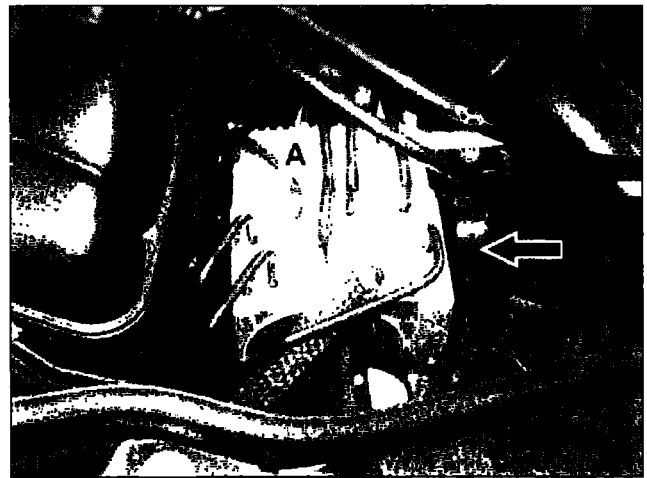
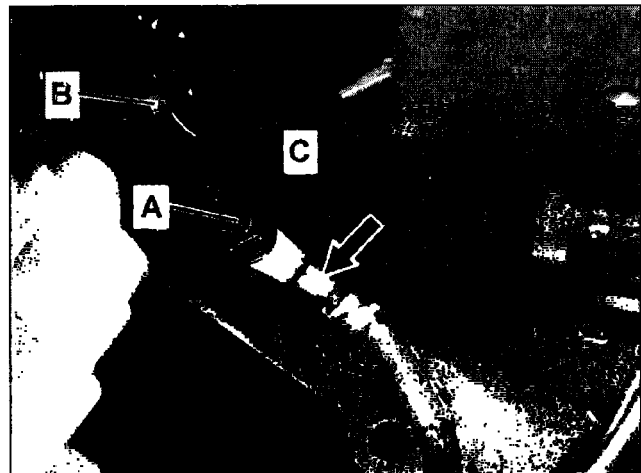

Figure 4
Figure 5
3. Disconnect SBC hydraulic unit harness connector (arrow, Figure 4) from SBC hydraulic unit (A) and remove cable tie (B, Figure 5).
4. Detach the SBC hydraulic unit ground wire harness (arrow, Figure 5) at ground terminal stud (A).